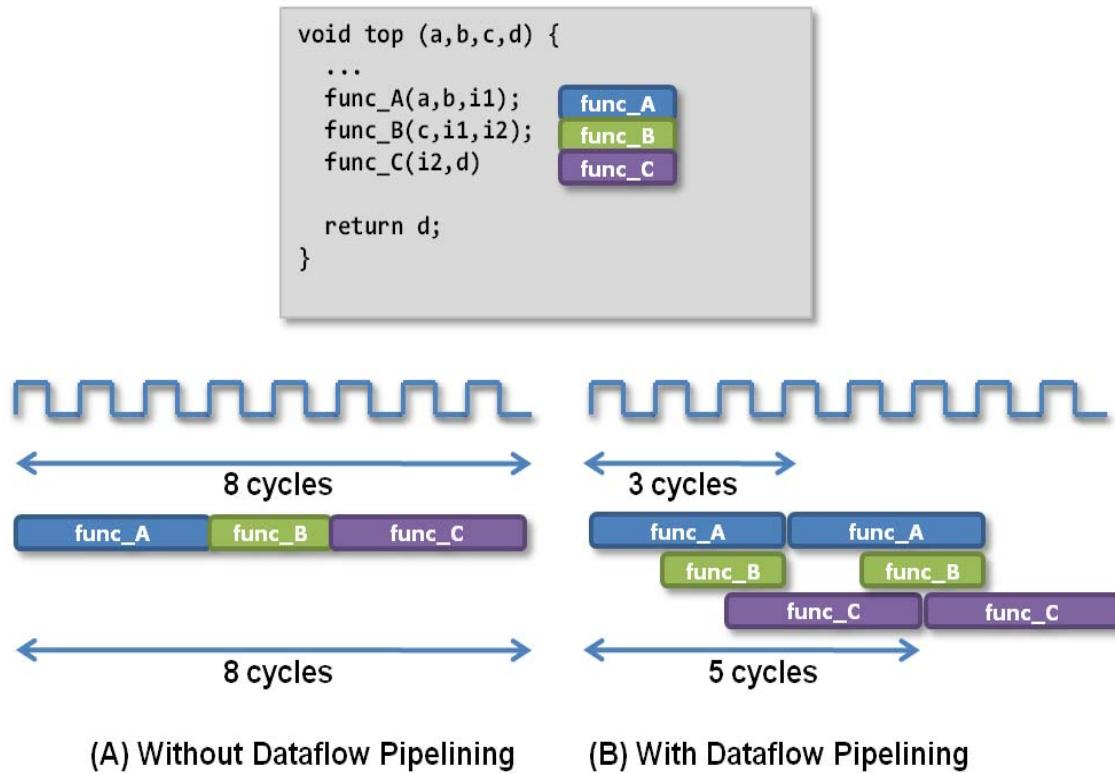

Figure 1-61: Dataflow Pipelining Behavior
The channels shown in Figure 1-60 ensure a function is not required to wait until the previous function has finished all operations before it can begin. Figure 1-61 shows how dataflow pipelining allows the execution of functions to overlap, increasing the overall throughput of the design and reducing latency.
In Figure 1-61 (A) the implementation without dataflow pipelining requires 8 cycles before a new input can be processed by "func_A" and 8 cycles before an output is written by "func_C" (assume the output is written at the end of "func_C").
In Figure 1-61 (B), "func_A" can begin processing a new input every 3 clock cycles (increased throughput) and it only requires 5 clocks to output a final value (shorter latency).
shown in Figure 1-61 the following command would perform function dataflow pipelining on functions "func_A", "func_B" and "func_C".
When dataflow pipelining is used, High-Level Synthesis by default attempts to execute each RTL block starting at the same clock edge: maximum parallel behavior. If data dependencies prevent the RTL implementation of a function from executing until an earlier function provides data (as in the Figure 1-61 (B) where "func_B" must wait 1 clock cycle for "func_A" to generate the data for "i1") High-Level Synthesis automatically adjusts the interval between one block starting execution and the next block starting execution, to the minimum possible number of cycles.